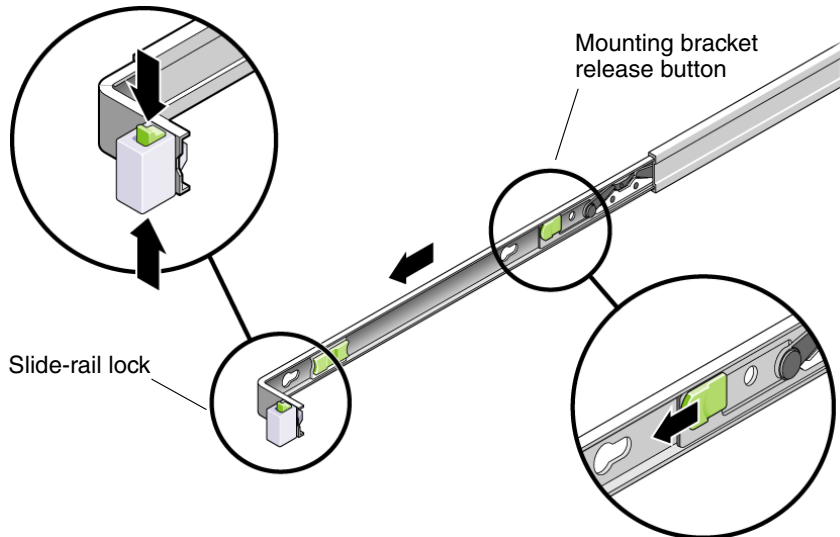

FIGURE C-1 Disassembling the Slide Rail Before Installation
2. **Locate the slide rail lock at the front of one of the slide rail assemblies, as shown in FIGURE C-1.**
3. **Squeeze and hold the tabs at the top and bottom of the lock while you pull the mounting bracket out of the slide-rail assembly until it reaches the stop. (See FIGURE C-1).**
4. **Push the mounting bracket release button toward the front of the mounting bracket, as shown in FIGURE C-1, and simultaneously withdraw the mounting bracket from the slide-rail assembly.**